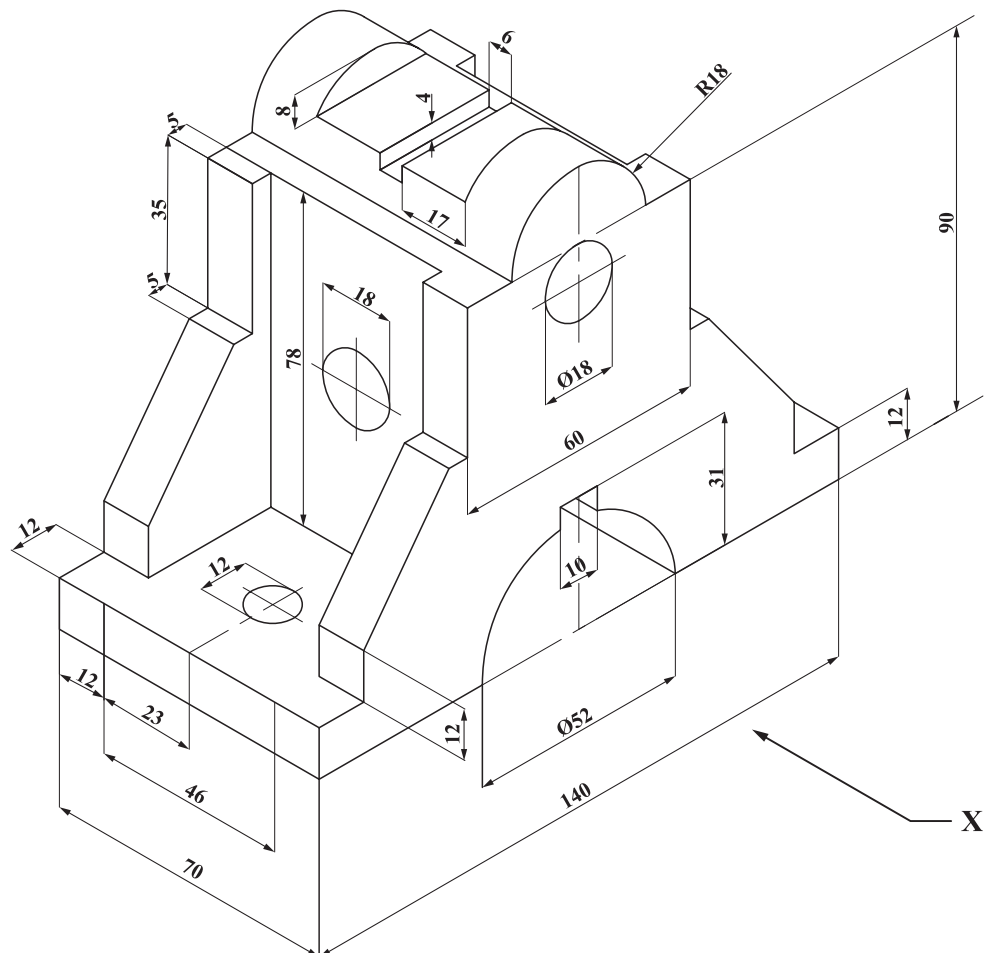

Figure 1. Sliding tool
- (b) Figure 1 shows a pictorial projection of a sliding tool with the front view identified by Arrow X.